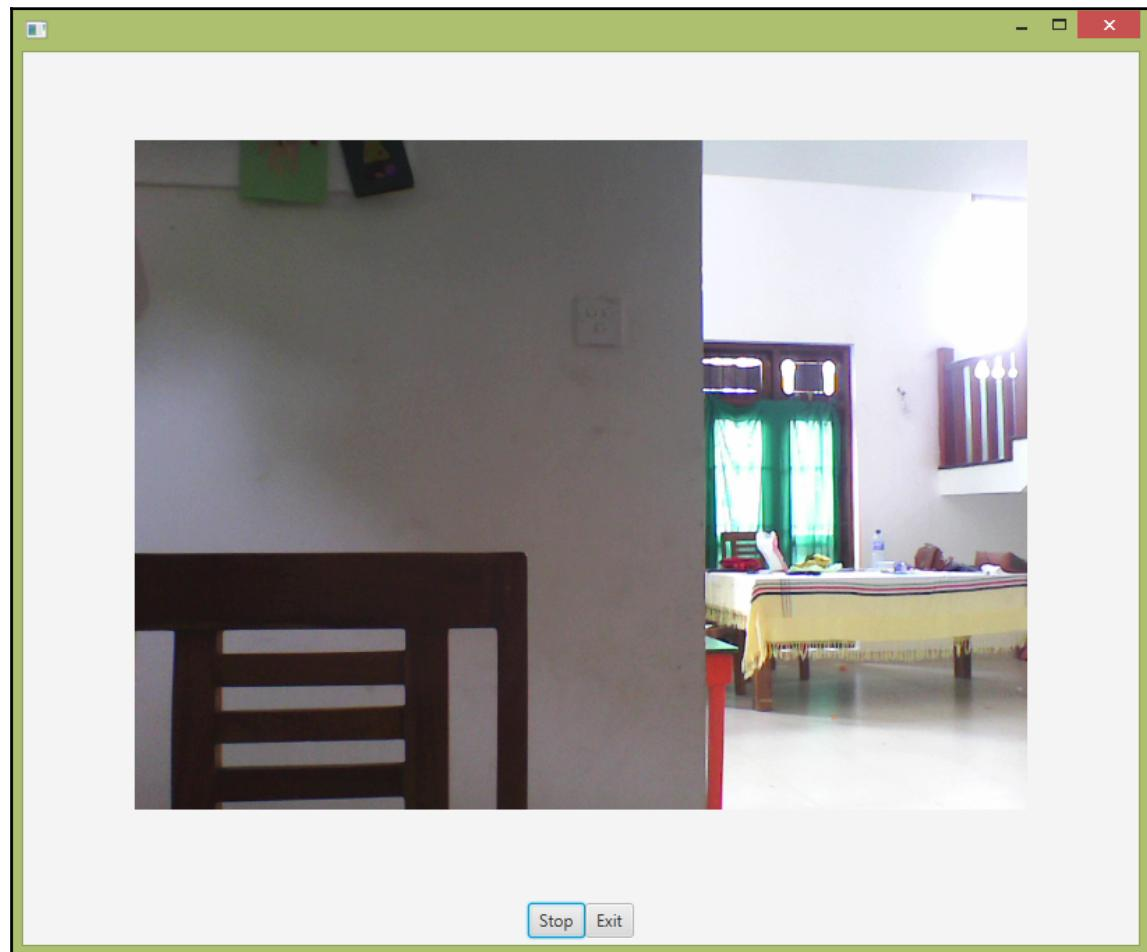

Figure 7-18: Video output
7. Click the **Start** button to grab the video and the Stop button to stop the video. The sequence of grabbed images (frames) at 30 frames per second makes a real-time video similar to what is shown in Figure 7-18: